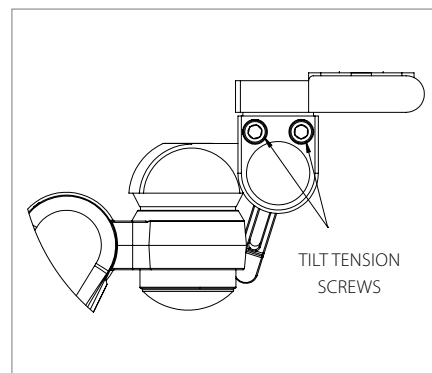

Figure 9
- iv. Verify that the tilt angle is secure by grasping the **MOUNTING SHELF** and attempting to adjust the tilt. If movement is detected, tighten the 2x **TILT TENSION SCREWS** to the desired resistance (Figure 9).